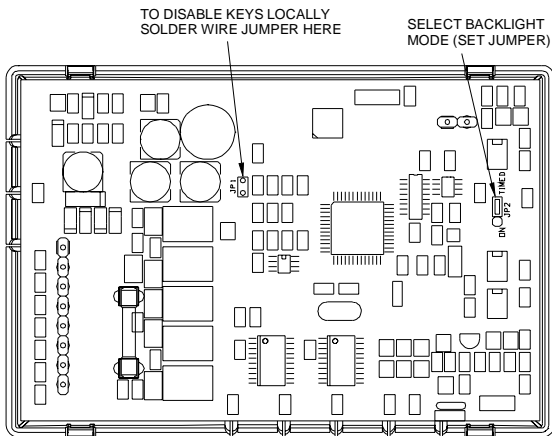

Figure 6
- 1) To configure the display backlight to turn on when a key is pressed, then back off 30 seconds later, set the "JP2" (Select Backlight Mode) jumper to the "TIMED" position (between the top and middle pin on the connector) - See *Figure 6*.
- 2) To configure the display backlight to always be on, set the "JP2" (Select Backlight Mode) jumper to the "ON" position (between the middle and bottom pin on the connector) - See *Figure 6*.
- 3) To configure the display backlight to never come on (always off), remove the "JP2" (Select Backlight Mode) jumper from the connector - See *Figure 6*.
The keys on the thermostat can be disabled to prevent anyone from controlling the thermostat locally. To disable the keys, solder a wire jumper across "JP1" (two holes on the circuit board) - See *Figure 6*.